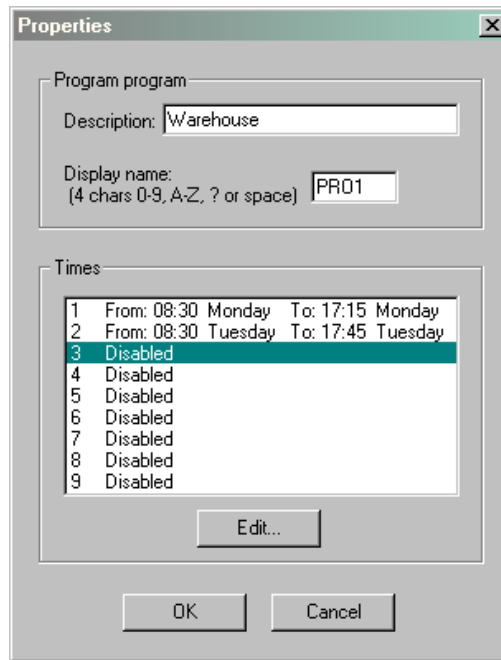

Figure 44 Program Properties Dialog
11. Enter a Description to identify the program and a four character Display Name that will appear on the pump display (Fig. 44).